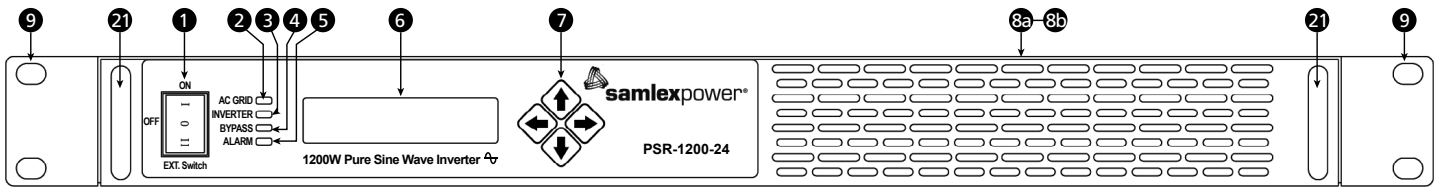
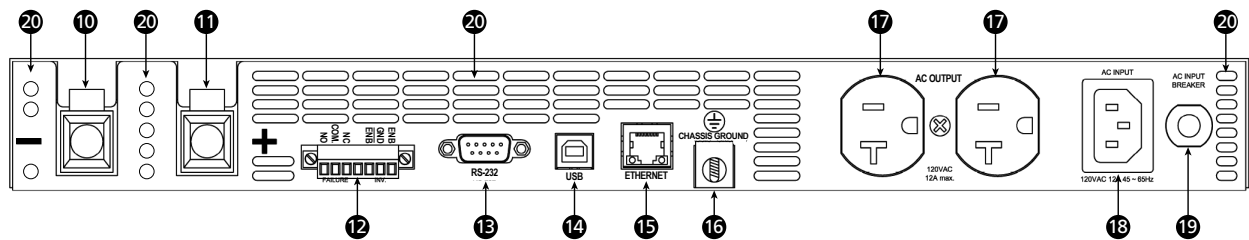

Fig 6.1 Front view and layout of Front Panel (With mounting brackets)
Fig 6.2 Rear view and layout of Rear Panel (Without mounting brackets)
Relays RL-1[for Line (L) side] and RL-2 [for Neutral (N) side] are in de-energized condition if AC GRID input is NOT available. These 2 relays will be energized as soon as AC GRID is available [irrespective of the position of the Front Panel On/Off Rocker Switch (1, Fig 6.1)]. 12VDC power for energization of these 2 relays is supplied by internal Switched Mode Power Supply (SMPS) that is fed from the AC GRID input. As these relays will be powered by the AC GRID input, their energization will not drain any DC power from the 24V/48V battery system used to power the Inverter Section.
If AC GRID input is being fed to the unit through AC Inlet (18, Fig 6.2) and has been switched ON, it will be bypassed to the AC outlets (17, Fig 6.2) even if the Inverter Section has been switched OFF either through the 3-Position Rocker Switch (1, Fig 6.1) or through the Wired Remote On/Off Control (Section 5.7). See explanation below:
As soon as AC GRID input is available, Relays RL-1 and RL-2 will get energized (even if the Inverter Section has been switched OFF either through the 3-Position Rocker Switch or through the Wired Remote On/Off Control). Normally Open (NO) contact pairs 1-2 and 3-4 will be closed. As the Inverter section is OFF / not supplying the load, the Normally Closed (NC) contacts of Relays RL-4 and RL-5 will bypass the AC GRID input voltage to the AC Outlets (17, Fig 6.2).
When the unit is used as an independent Inverter with no input connection to the AC GRID, it will be considered as a "Separately Derived System" as per Article 250 of the National Electrical Code (NEC). As per this Code, the Neutral Conductor of the Inverter output has to be bonded to its Equipment Ground (metal chassis of the unit). The Equipment Ground (metal chassis of the unit) has to be connected to the Earth Ground through the Grounding Terminal (16, Fig 6.2) so that in case of a Ground fault, the Inverter will be able activate its over-current shut down protection. However, if the unit is being used as a UPS and is fed from AC GRID Supply Panel, it will be considered "NOT Separately Derived System" but as a "downstream load" as far as the AC GRID Supply Panel is concerned. The AC GRID Supply Panel will have its Neutral bonded to the Earth Ground (through the Ground Rod). As per NEC, it is not permitted to bond the Neutral and Equipment Ground (metal chassis) of any down-stream load being fed from the AC GRID Supply Panel. To meet the above requirements, Relay RL-3 is energized only when the Inverter is supplying power i.e. when Transfer Relays RL-4 and RL-5 are energized (See Section 5.4.1).
The Inverter Section can be switched ON and OFF using wired remote ON / OFF control. For this, terminals ENB, GND and ENB have been provided in the 7-Way Terminal Block at the rear of the unit (12, Fig 6.2).
IMPORTANT NOTE: For activation of wired remote ON / OFF function, the 3-Position Rocker Switch on the Front Panel (1, Fig 6.1) has to be pressed down towards position marked "EXT. Switch".
Layouts of the Front and Back Panels are shown in Figs 6.1 and 6.2 below:
LEGEND FOR FIGS 6.1 AND 6.2